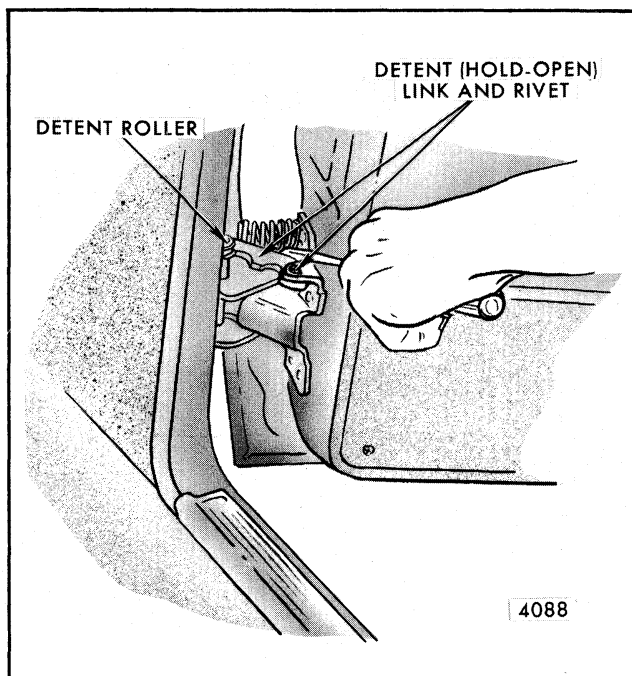

Fig. 5-71-Front Door Hinge "Hold-Open Spring" Removal - "X" Styles
2. Disengage door hold-open spring from lower hinge assembly by prying upward against spring with a suitable prying tool (Fig. 5-71). Use care not to damage hold-open link.